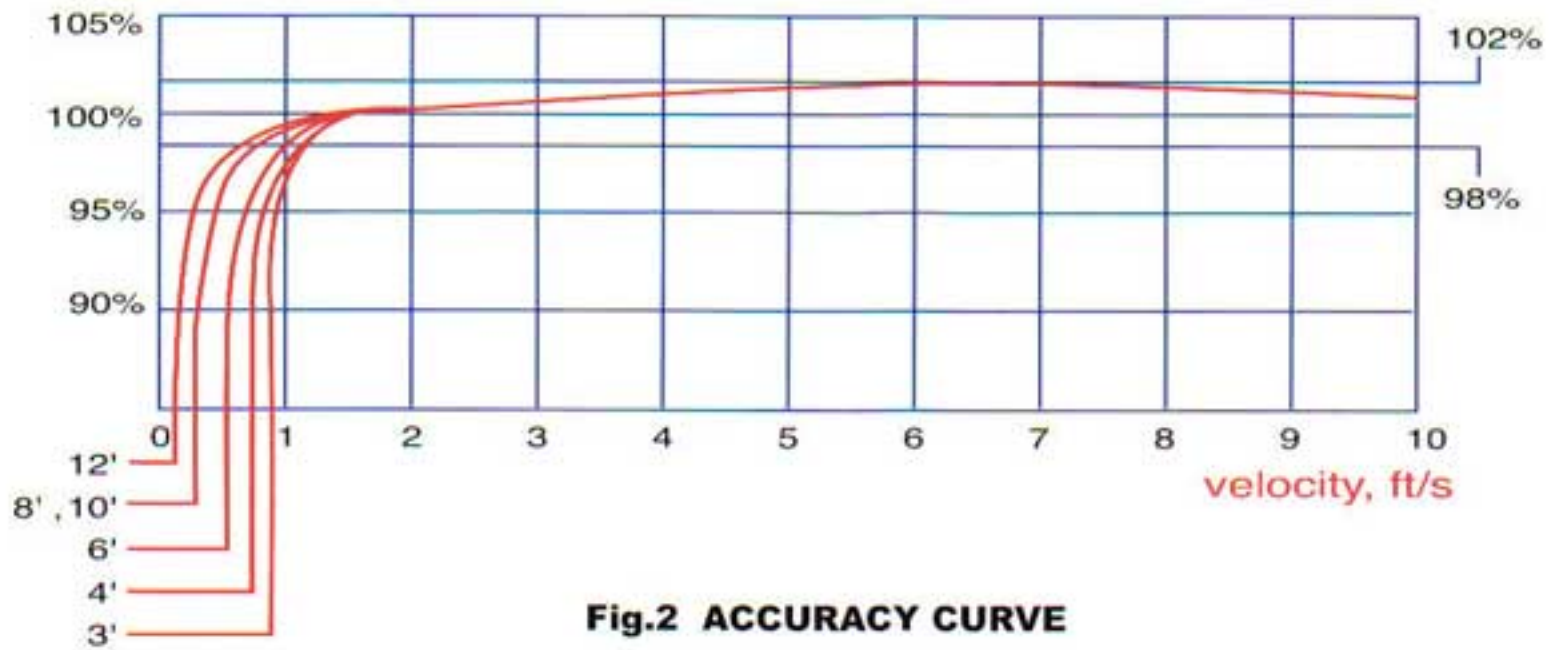

Fig.2 ACCURACY CURVE
- * high meter accuracy and repeatability (Ref. Fig.2 ACCURACY CURVE) originated from advanced technology and good engineering